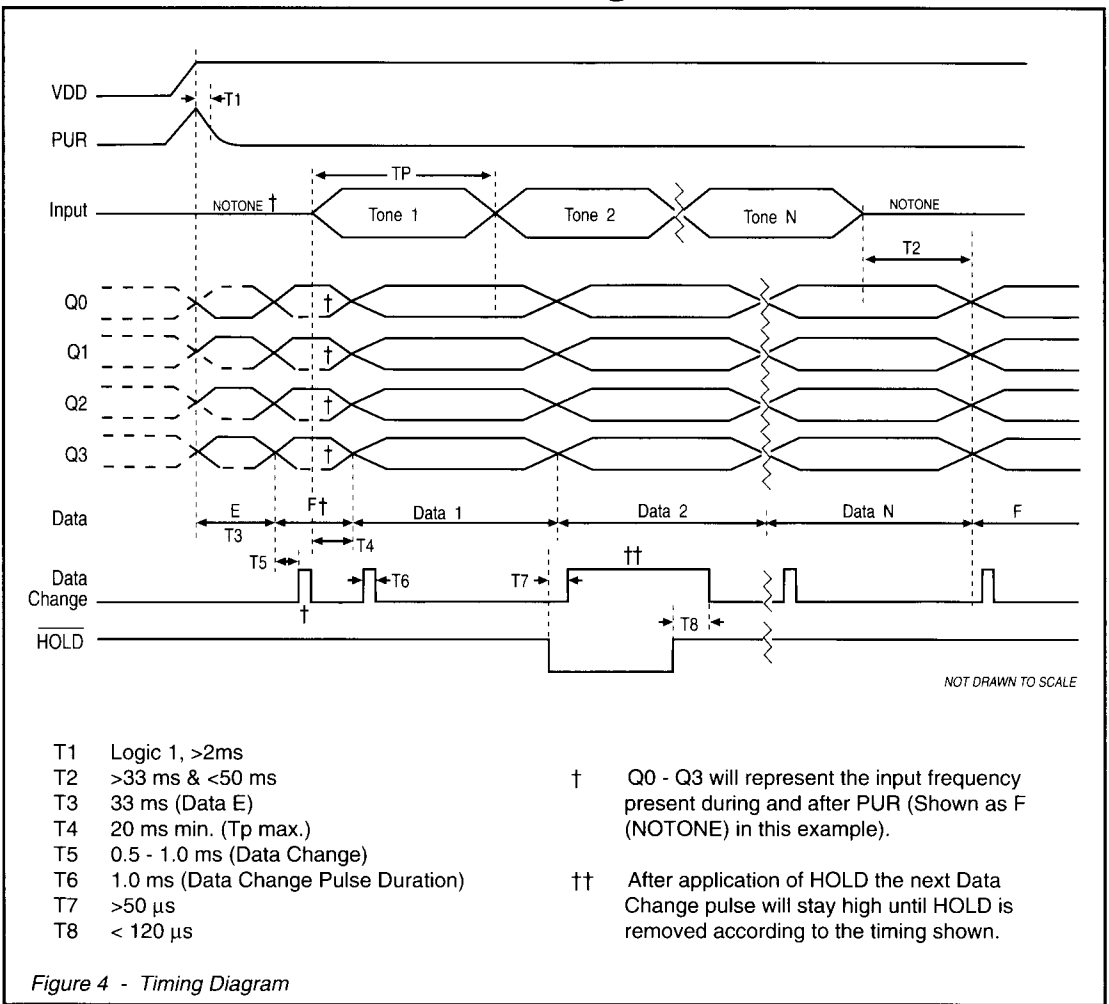

Figure 4 - Timing Diagram
- 6) Delay from change of input (tone applied/removed) to change at Q0-Q3 outputs (see Figure 4).
- 7) Minimum tone gap requirement for "notone" recognition. Outputs = F after delay (see Figure 4).